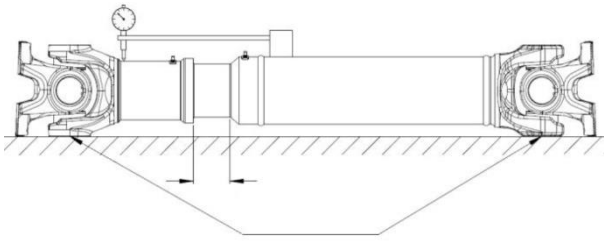

Figure 2.2
6. To check the spline joint clearance, the cardan shaft must be expanded by approximately 50 mm and laid horizontally as shown in the figure (**see Figure 2.2**). In order to calculate the deviation, a pressure gauge dial should be used, fixed with a pressure gauge dial holder to the pipe at the containment weld.